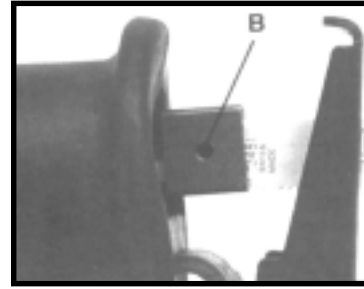

Fig. 2
2. Insert the blade into the blade clamp until it bottoms. When the blade is properly positioned: the hole in the blade shank will align with the hole (B) Fig. 2, in the backside of blade clamp.